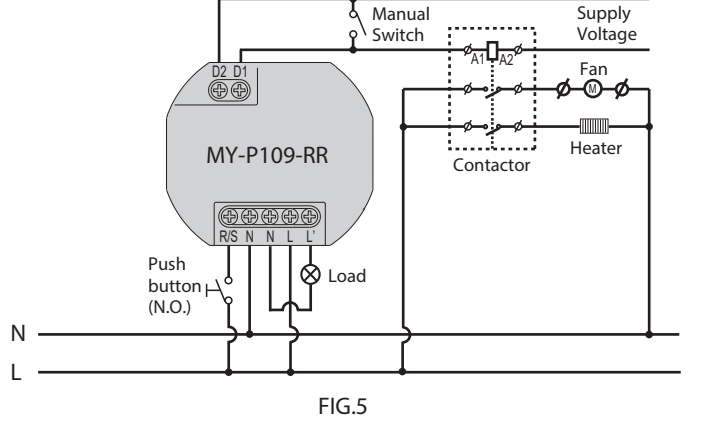
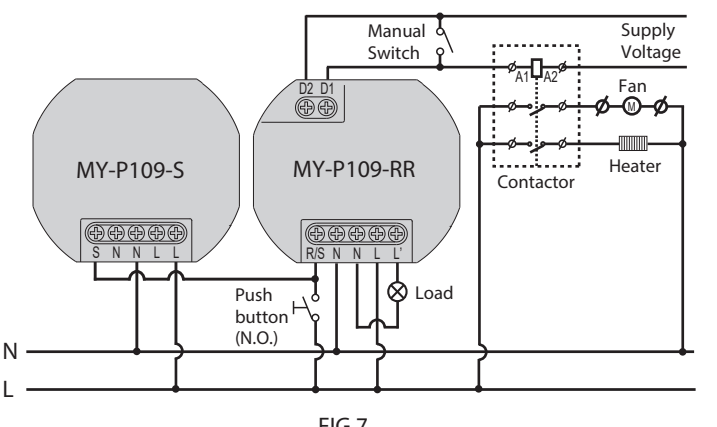
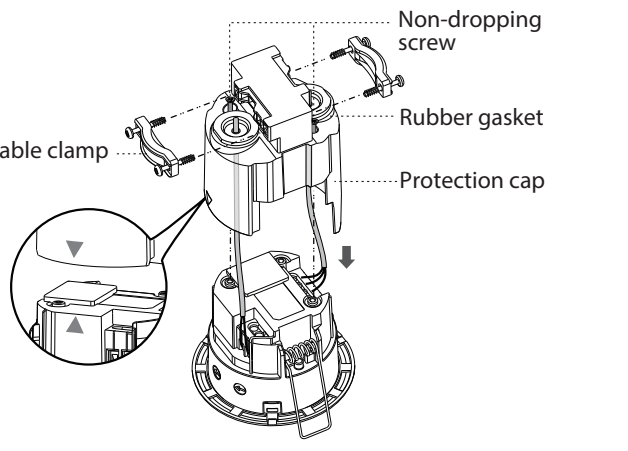

FIG.5
FIG.7
FIG.9
3.3.1.1 Normal operation (see FIG.5)
3.3.1.3 Master / Slave operation: Max. 10pcs slave detectors can be connected to R/S terminal of the master detector (see FIG.7). The maximum cable length between the first detector and the last detector must not exceed 100m, and each two detectors should be at least 1m.
- 3.4.3 Break the rubber gasket, then feed cables through (see FIG. 9).
- 3.4.4 Refer to FIG.5 - FIG.7 for correct and ensure “ ∇ ” symbol of the protection cap is aligned with the “ \blacktriangle ” symbol of housing (see FIG.9), then screw the protection cap back on securely.